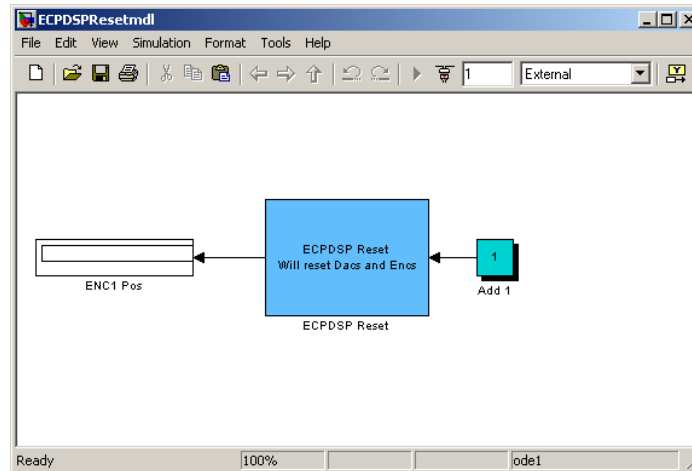

Figure 1: ECPDSPReset.mdl
6. Now you need to reset the system. This should be done each time before you run the system. From MATLAB, type **simulink** at the command prompt to open the Simulink file, **ECPDSPReset.mdl** (see Figure 1).